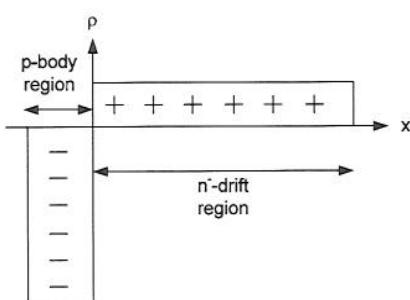

Figure 1 Charge distribution in an abrupt *p*-*n*- junction
- i) Assuming an abrupt junction between the *p*-body region and the *n*--drift region in the power MOSFET, as shown in Figure 1, what is the minimum length required of the drift region to block 200 V? You can assume that the vast majority of the voltage is blocked in the *n*--drift region and that the doping concentration in each region is constant. The maximum field strength in silicon before avalanche breakdown is 10 MV/m, the permittivity of free space is  $8.85 \times 10^{-12}$  F/m and the relative permittivity of silicon is 11.7. [3]